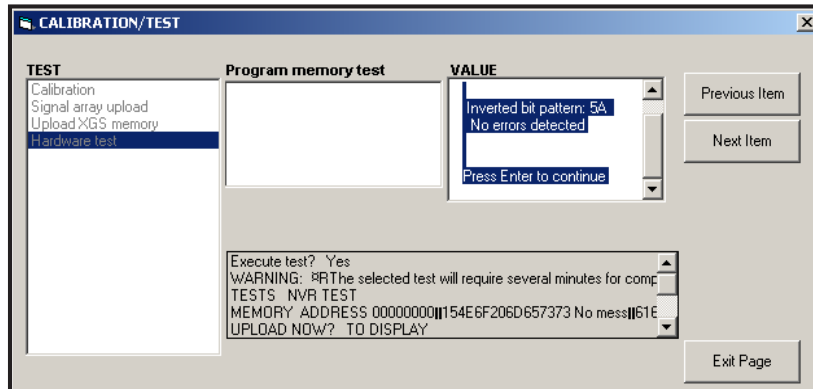

Figure 15: Completion of the NVR Test
4. If the NVR passes the test, the screen appears similar to Figure 15 on page 55. Click [Exit Page] to return to the *Hardware Test* option, and [Exit Page] again to return to the main *Calibration/Test* menu.